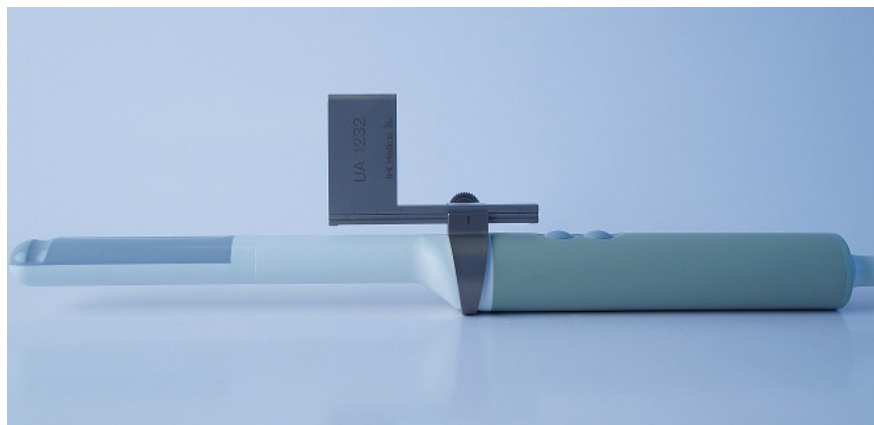

Figure 5. E14CL4b with puncture attachment UA1232.
- 2 The puncture attachment should be correctly positioned (Fig. 5) before the lock screw is tightened.